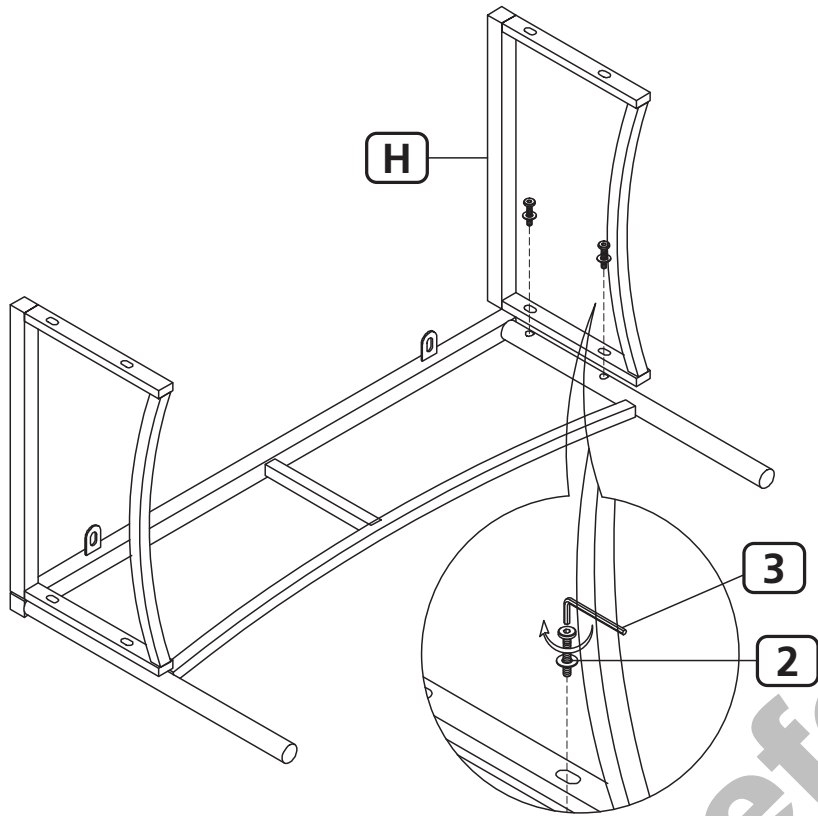

Fig. 8
Insert two M6x25 Bolts (2) with washers through eyelets of the second Table Panel (H), and into the opposite side of Table Legs (G), see Fig. 8.